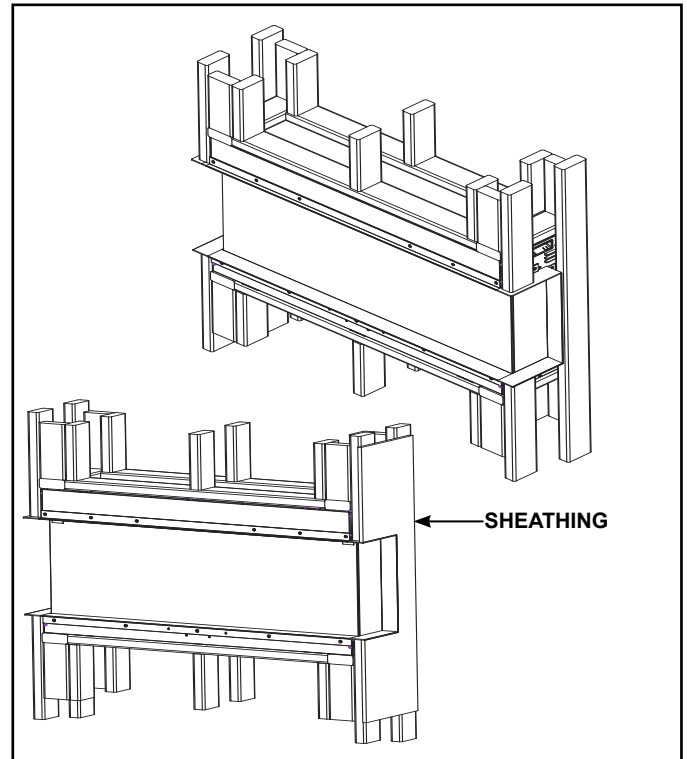

Figure 4.5 2 in. (51 mm) Side Trim Configuration
3. Install the appliance into the opening reference Figure 4.5. Ensure that weight of appliance is fully supported by floor or bottom framing member. Level with shims if necessary. Ensure that it is centered left to right, then fasten it directly to the framing with six (6) provided ST4\*40 screws, one through each of the six (6) brackets.
Attach 2x4 framing members on the side of the framed appliance opening as shown in figure 4.5.